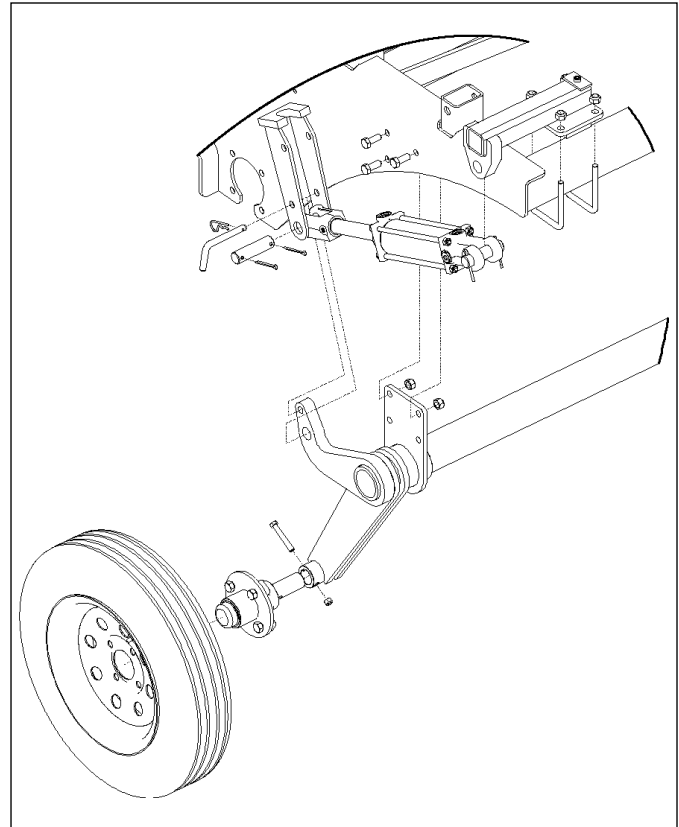
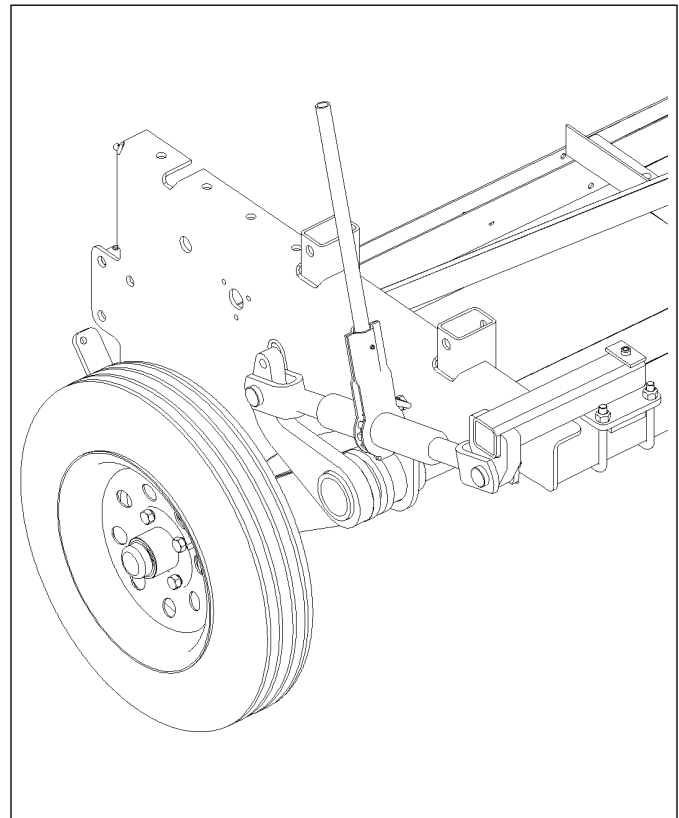

Figure 3-2: Rockshaft Installation
Figure 3-3: Ratchet Jack Installation
3. Install either the Hydraulic Cylinder, See Figure 3-2. or the Ratchet Jack, See Figure 3-3. between the two Lugs. If installing a Hydraulic Cylinder also attach the manual Transport Lock to the rod end of Cylinder with 1" x 3-5/8" Pin and 3/16 x 2 Cotter Pins.
4. Bent Pin and Hair Pin Cotter are used to Lock the Transport Lock in position during operation and transport. For operation the bent pin goes thru top hole on rockshaft cylinder lug and for transport bent pin goes under cylinder rod. See Fig 3-2.
2. Mount a Wheel and Tire Assembly onto each hub with 1/2-20 x 1" Wheel Bolt. See Fig 3-2.